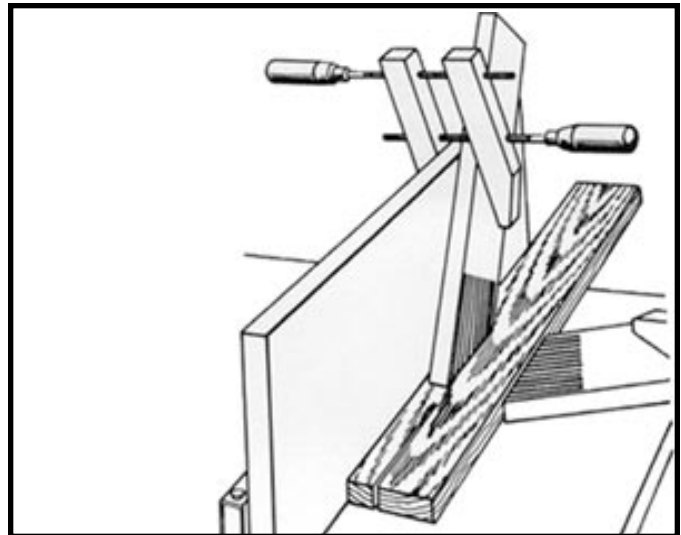

Fig. 33
**⚠ WARNING** Use featherboards for all non “thru-sawing” operations where the guard and spreader assembly must be removed (see Fig. 33). Always replace the guard and spreader assembly when the non thru-sawing operation is completed.